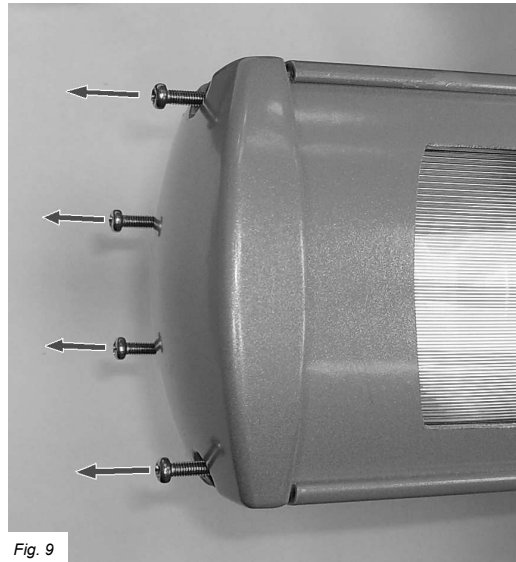

Fig. 9
3. Unscrew the four screws (see Fig. 9) from the end cap and remove from the heater body. Repeat at opposite end if replacing both light bulbs.